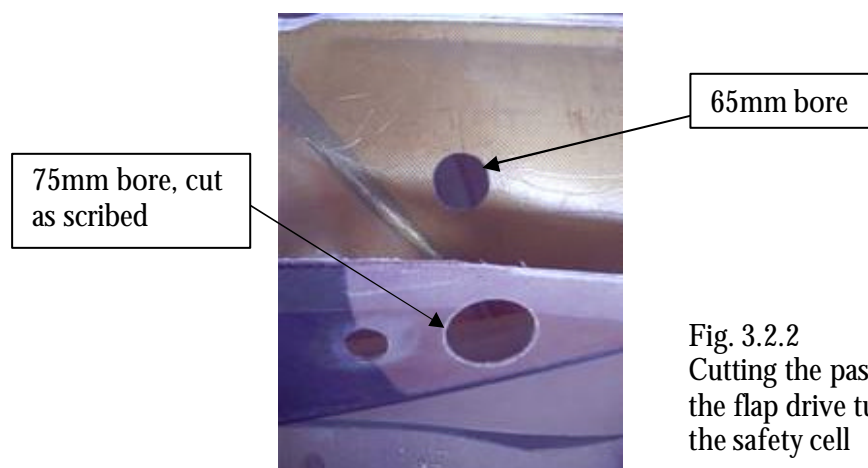

Fig. 3.2.2
9. Cut the scribed 75mm (2.95") bores for the flap drive with a keyhole saw or a cutter as shown in figure 3.2.2.